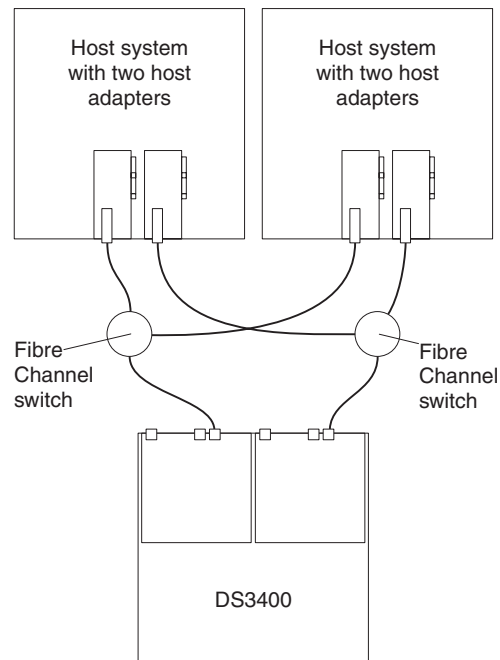

Figure 47. Example of a dual SAN fabric configuration
- Dual SAN fabric configuration, as shown in Figure 47 on page 53
In Figure 47, the Fibre Channel switches are *not* connected together through an ISL. Each switch forms its own SAN fabric. This configuration is also the configuration to use for a dual-node cluster configuration.